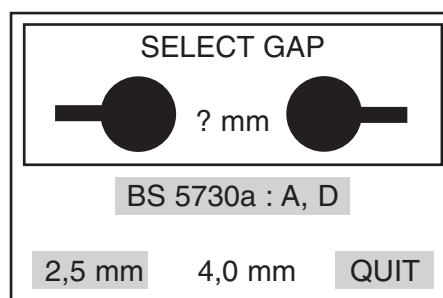

Figure 11 Example of electrode gap selection screen
2. Pressing the left hand key labelled A, D generates the screen shown in figure 11. Use the left and centre control keys to select the programme for the desired electrode gap. This gap should have been previously set according to the BS 5730a test required.